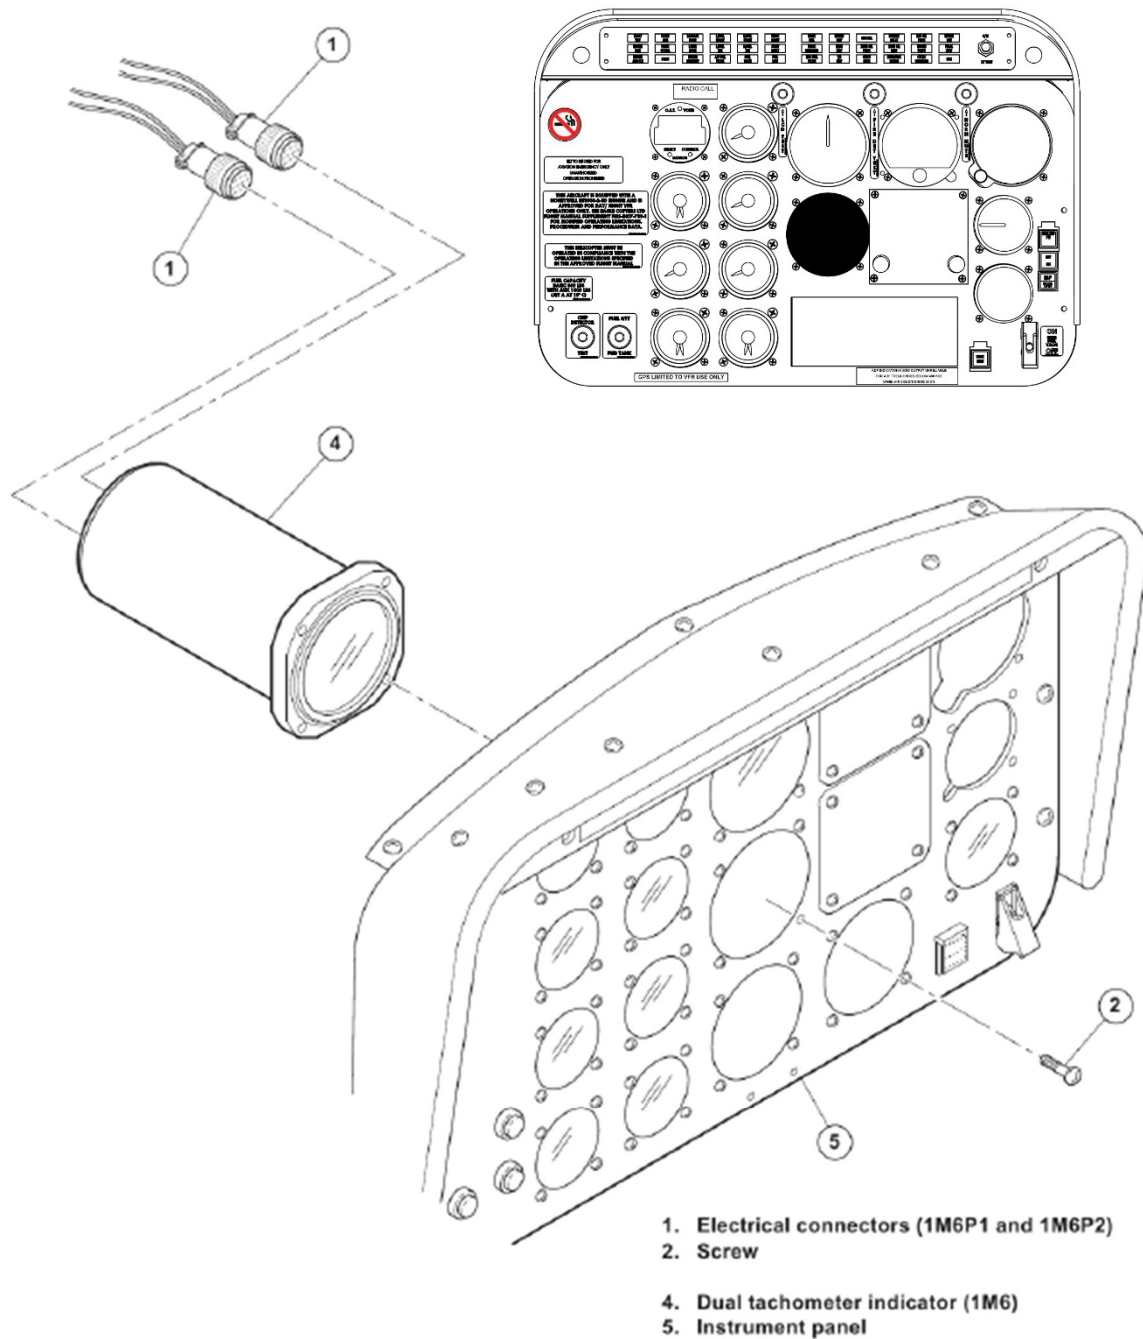

Figure 95-19: Dual Tachometer Indicator - Removal and Installation
2. On the instrument panel, remove the screws and washers that attach the instrument panel (Figure 95-19).
5. Disconnect the electrical connectors (1M6P1 and 1M6P2) (1, Figure 95-19) from the dual tachometer indicator (1M6) (4). Install caps and/or plugs (C-156) on the electrical receptacle of the instrument and on the electrical connector.
7. Remove the screws (1), Figure 95-19) and nuts (2) that attach the instrument (3).
8. Carefully remove the instrument (3) from the instrument panel (5).
2. Install the dual tachometer indicator (1M6) (4, Figure 95-19) in its location on the instrument panel (5).
3. Attach the dual tachometer indicator (1M6) (4) to the instrument panel (5) with the screws (2).
4. Connect the electrical connectors (1M6P1 and 1M6P2) (1) to the receptacles of the dual tachometer indicator. Connect the electrical connector (1M6P1) to the indicator receptacle (1M6J1). Connect the electrical connector (1M6P2) to the indicator receptacle (1M6J2).
5. Carefully put the instrument panel (5) in position.